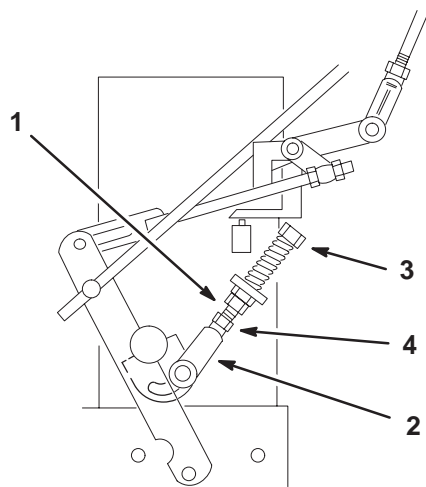

Figure 41
6. If the wheel turns while holding the drive lever in neutral, the neutral control linkages need to be adjusted (Fig. 41). If wheel stops then go to step 12.
7. Loosen the nut against the neutral control linkage yoke (Fig. 41).
8. Adjust the neutral control linkage until the respective drive wheel stops while the drive lever is pulled against the neutral spring (neutral position) (Fig. 41).
9. Turn the adjusting bolt approximately 1/4 turn clockwise if the wheel is turning in reverse or turn the bolt approximately 1/4 turn counter-clockwise if the wheel is turning forward (Fig. 41).